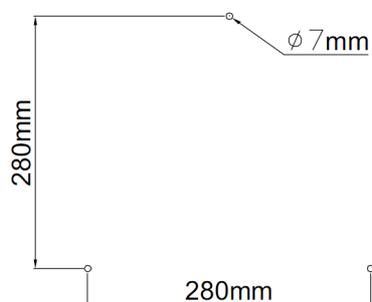

Figure 3
2.Punch mounting holes in wall according to Figure 3